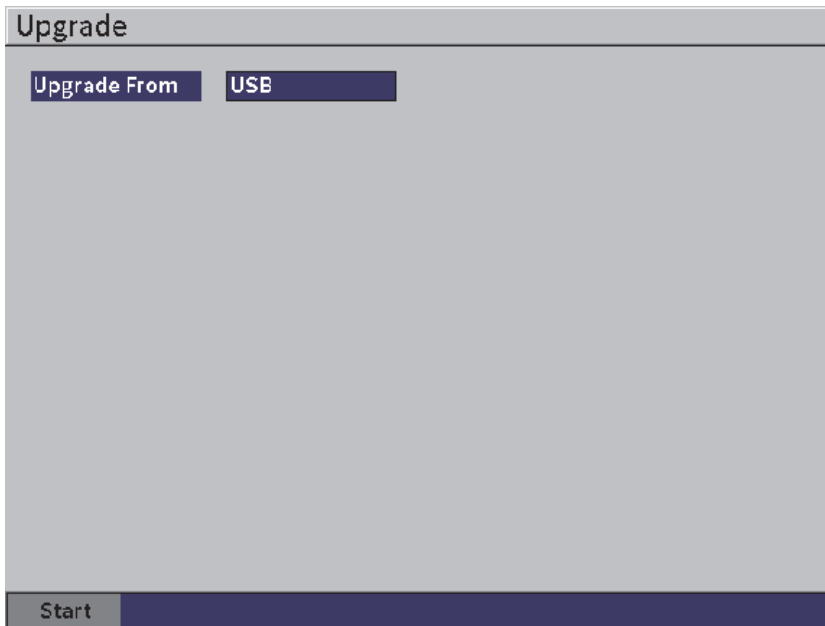

Figure 5-14 Upgrade setup page
1. Select the **Upgrade** icon () to open the **Upgrade** setup page (see Figure 5-14 on page 56).